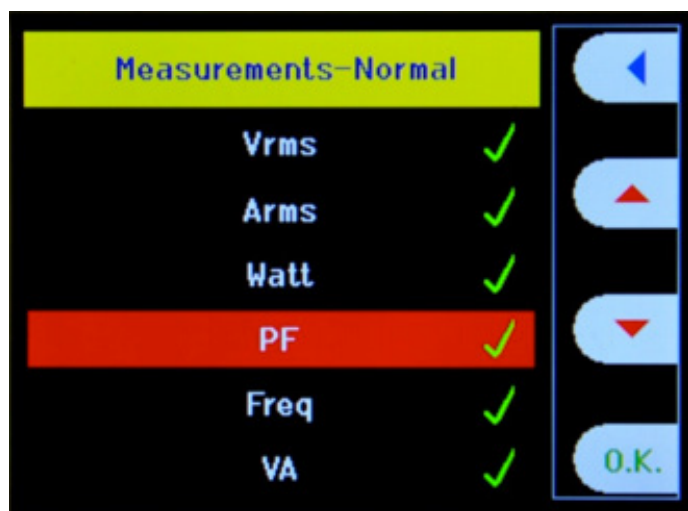

Figure 8. Measurements menu.
- To view more parameters press the 'Menu' button on the front panel and navigate to 'Measurements' as shown in Figure 8.